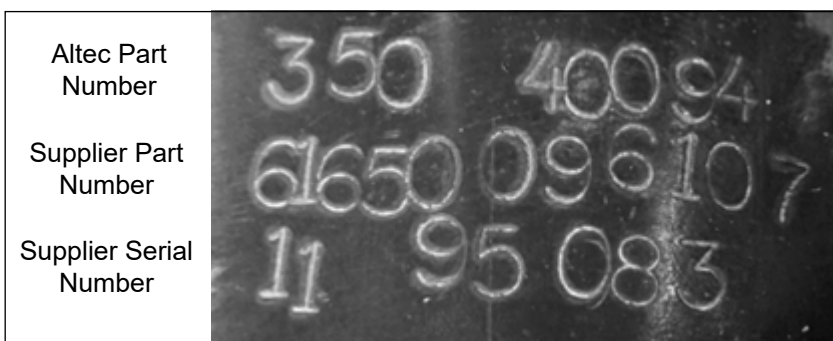

Figure 1 — Lower Boom Cylinder Inspection
4. Inspect the lower boom cylinder (refer to Figure 1) for the manufacturer’s identifying information. Record the inspection results in the table below.